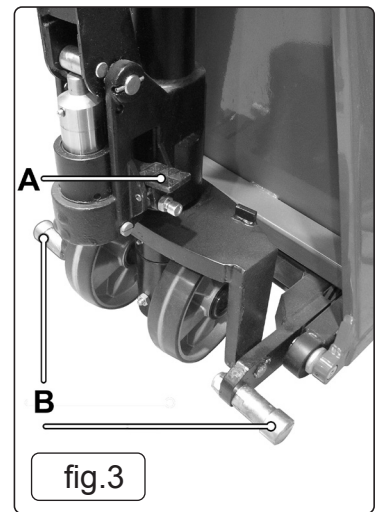

fig.3
- 4.1.6. Lower the handle to depress the piston and remove the restraint pin from the hole 'B' above the piston (fig.3.B). Place the lever in the central 'raise' position.
- 4.1.7. Press and hold down the foot pedal (fig.3.A). Slide the adjusting bolt and nut at the end of the
- 5.10. Bring the truck to a stop where required and lower the load to the floor by pulling the operating lever to its highest position and holding it there until the load has settled to the floor. Alternatively the load can be lowered by pressing the foot pedal (fig.3.A).
- 5.13. Pump the handle up and down to lift the load. When the forks reach their maximum height the lifting action will stop even if you continue to pump the handle. As the load rises the stabilising pins attached to the legs either side of the wheels (fig.3.B) will begin to make contact with the ground. Above the height of 300mm the rear wheels are no longer in contact with the ground. This is a safety feature designed to prevent the moving of the load when the forks are raised to a high level.